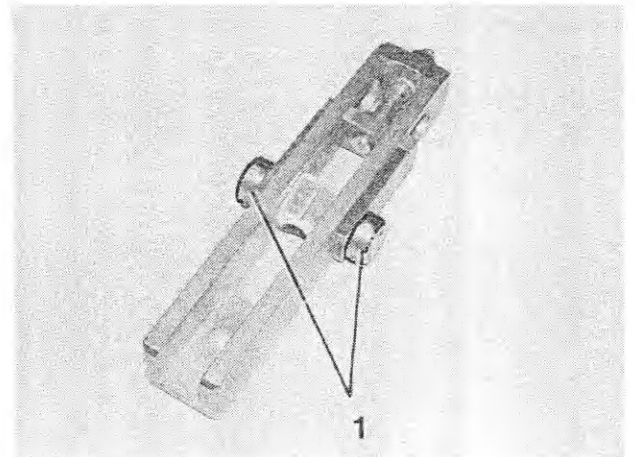

Fig. 251
9. Release the stop rings (Figure 251/1). Loosen the stud bolts and remove the stop rings.